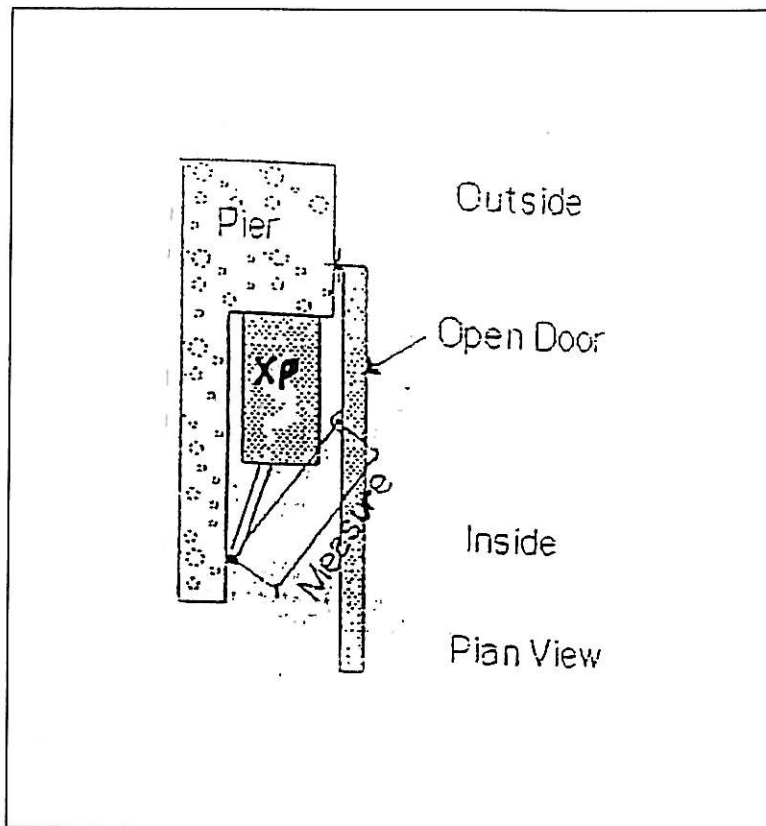

Figure 8: Re- Measure Length of Secondary arm
- iii. Now move the primary arm to its maximum open position. Open the gate & measure the distance again [See figure 8]. If the length has changed then the gate bracket must be repositioned & the same process repeated until the dimension remains the same for both positions.